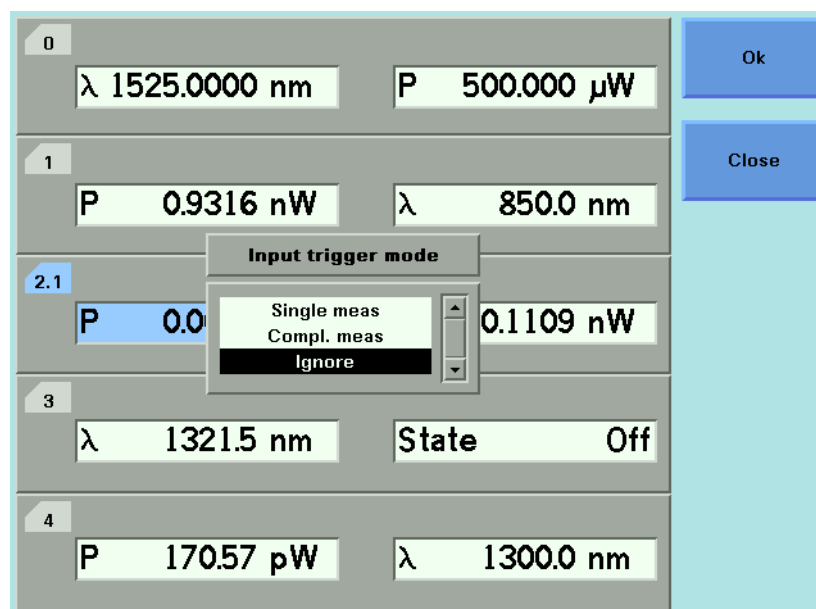

Figure 56 Input Trigger Mode
- 3 Move to <Input Trigger Mode>, by using the cursor key, and press *Enter*. You will see the screen in Figure 56 .